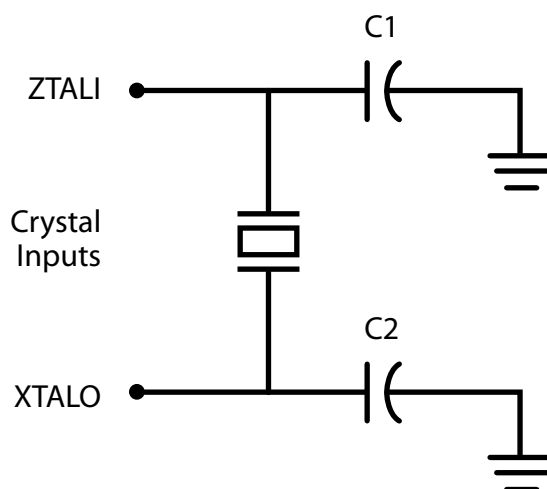

Figure 6. Crystal Connection
**Clock Oscillator/Driver Logic Unit.** A clock oscillator/driver is available that will allow the user to eliminate circuitry with in a new design, or that can be used as another oscillator within the system. This logic will accept either a crystal ceramic resonator or TTL-compatible clock input and generate a MOS-compatible clock output and also an oscillator reference output. Zilog recommends a fundamental parallel resonant crystal; see Figure 6. The preferred value of the two capacitors C1 and C2 is 33 pF each.